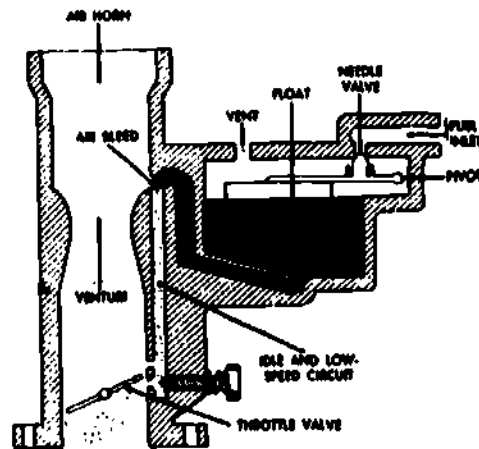

Fig 1-26. Low-speed circuit.
- (2) **The low-speed circuit (fig 1-26).** When the throttle is almost closed, the amount of air flowing through the carburetor bore is so small that there is practically no vacuum created in the venturi. Therefore, no fuel flows from the nozzle in the venturi. The low-speed circuit supplies fuel under these conditions.
With the throttle closed, the engine creates a high vacuum below the throttle valve because the valve itself acts as a restriction. The low-speed circuit has an idle discharge hole that is below the throttle valve. The higher air pressure on the fuel in the carburetor bowl pushes the fuel to the vacuum at the idle discharge hole. Notice in figure 1-26 that a small air bleed hole is located at the tip of the low-speed circuit passage. It lets air bleed into the circuit and mix with the gasoline. This helps atomize the fuel before it leaves the idle discharge port. Notice also that an adjusting needle valve is placed at the idle discharge hole. Turning this screw will change the richness of the idle mixture. Turning the screw in closes the hole and allows less fuel to flow. With less fuel flowing, there is a leaner mixture. If the screw is turned outward, more fuel flows and the mixture is richer.